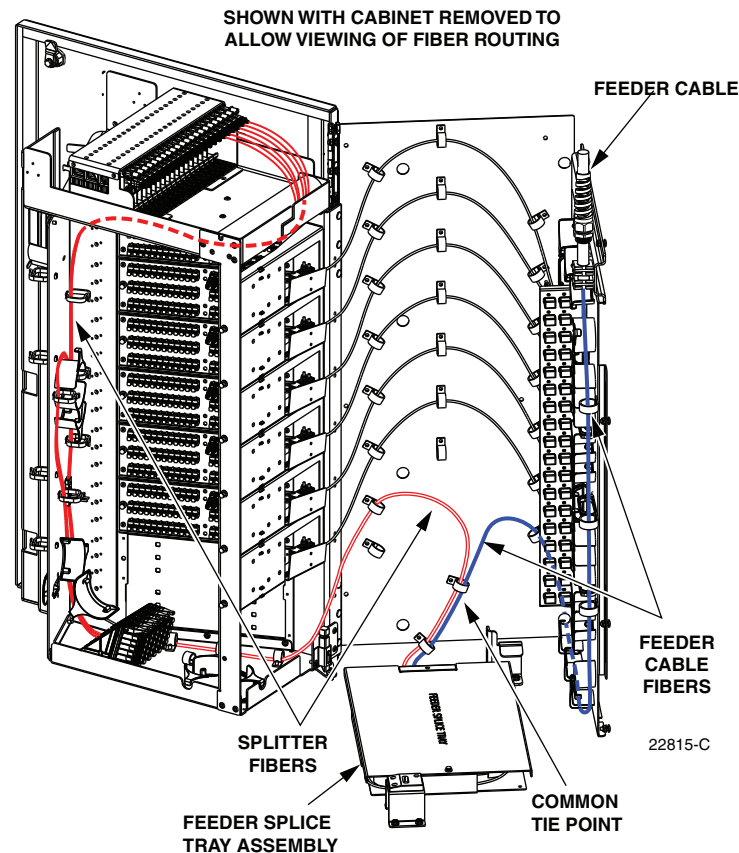

Figure 25. Feeder Splice Tray and Feeder/Splitter Fiber Routing
1. Locate the feeder splice tray which is mounted at the bottom of the cabinet, as shown in Figure 25, and locate the splitter fibers which are routed to the feeder splice tray.